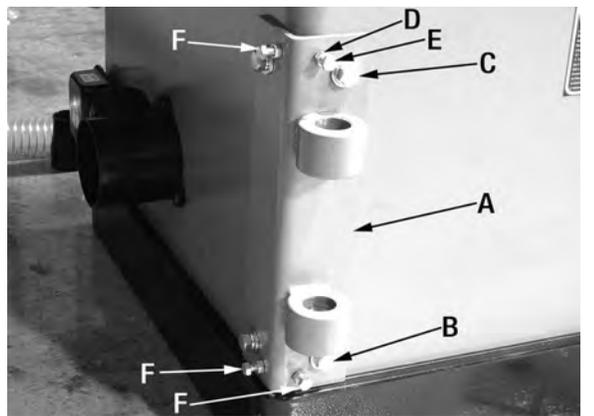

FIGURE 33
1. The outrigger table swing arm gets installed to the left side of the cabinet. Install the support bracket (A) Fig.33 with 2 hex. bolts, spring washers and washers (B) on the bottom section, and 2 hex. bolts, spring washers, washers and special nuts (C) (special nut inside cabinet) on the top section. Before attempting to install swing arm to the support bracket, loosen hex. nut (D) and remove hex. bolt (E).
3. Once the swing arm is installed, it is important to make sure it is perfectly level. Place a bubble level on the swing arm and verify if the swing arm is perfectly level. If an adjustment is needed, slightly loosen the 4 large bolts (B & C) Fig.33 and adjust the hex. bolts (E & F) in or out until the swing arm is level. Once properly adjusted, tighten the hex. nuts against the bracket to lock the setting. Retighten the large hex. bolts (B & C).